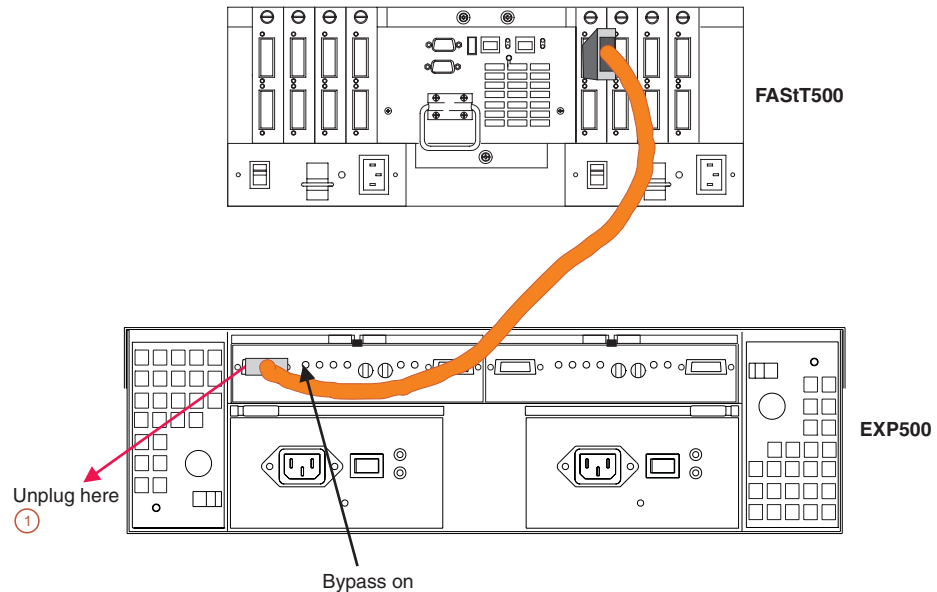

Figure 85. Disconnect cable from loop element
1. Disconnect the cable from the loop element that has the bypass indicator light on. See Figure 85.